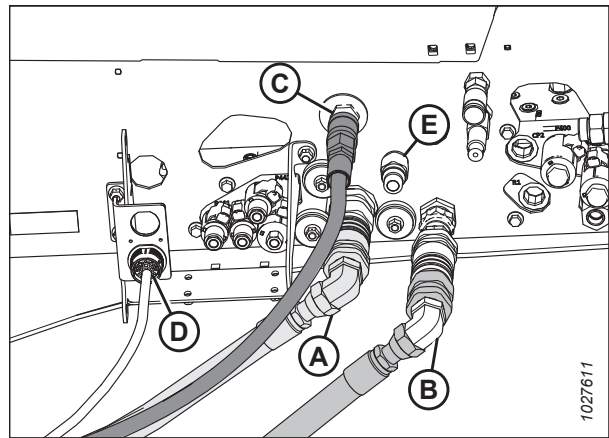

Figure 3.102: M1240 Hydraulic and Electrical Connections – Disc Ready Configuration
The 1/2 in. flat-faced coupler for case drain (E) in Figure 3.102, page 72 is **NOT** suitable for the R113 SP.